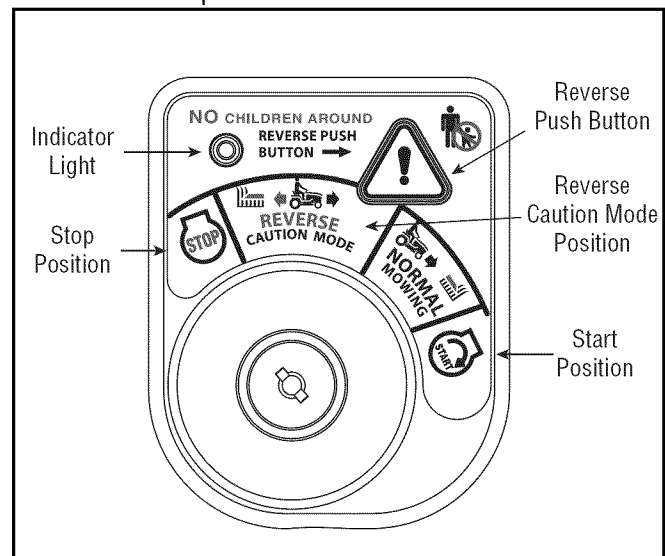

Figure 3
2. Turn the key from the **NORMAL MOWING** (Green) position to the **REVERSE CAUTION MODE** (Yellow) position of the key switch module. See Figure 3.
3. Depress the **REVERSE PUSH BUTTON** (Orange, Triangular Button) at the top, right corner of the key switch module. The red indicator light at the top, left corner of the key switch module will be **ON** while activated. See Figure 3.